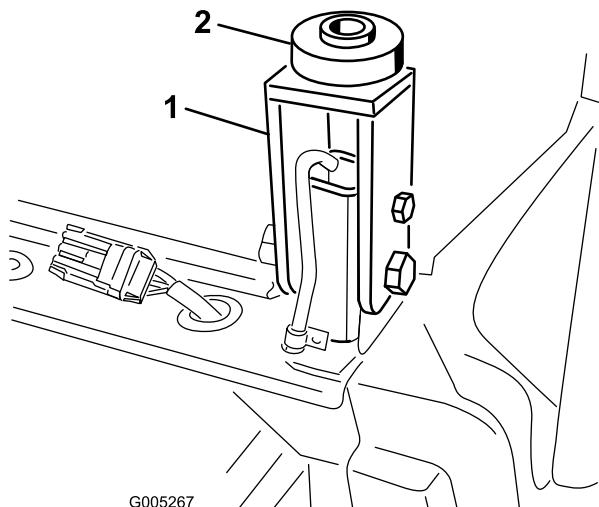

Figure 116
27. Insert a rubber mount onto each cab mount at the rear mounting locations (Figure 116).